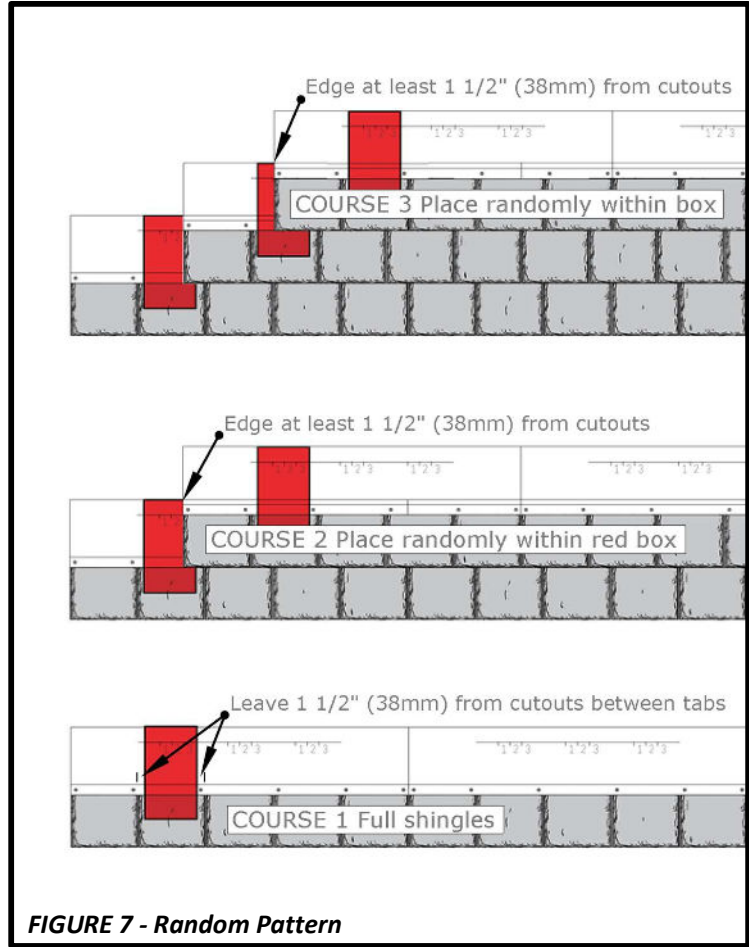
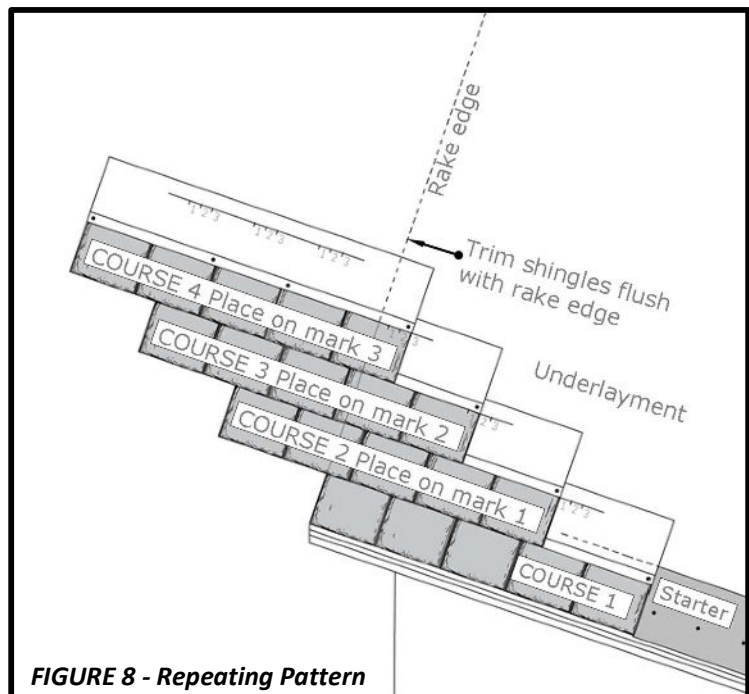
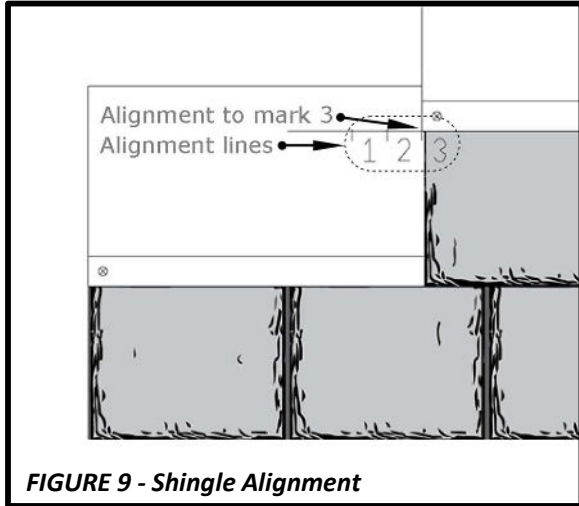

FIGURE 7 - Random Pattern
FIGURE 8 - Repeating Pattern
FIGURE 9 - Shingle Alignment
- In order to achieve the most realistic look, a random offset is preferred, as shown in **Figure 7**. A repeating offset, as shown in **Figure 8**, is also acceptable. If a repeating pattern is used, it is possible that the tab cutouts could line up at some angles when viewed from the ground. For the best appearance, the method used should be consistent on all slopes.
- Irrespective of the method used, trim shingles flush with the rake edge. See **Figure 8**.
- **COURSE 2** - Place shingles in a diagonal offset pattern. Use the horizontal reference lines on the shingle to provide a random offset distance. Be sure to keep the edge of the shingle at least **1 1/2" (38mm)** from the cutout on the shingle below. See **Figure 7**.
- Establish the overall diagonal method or stair-step effect. See **Figure 8**. Ensure proper placement of shingles on the alignment lines. See **Figure 9**.
- For the **REPEATING PATTERN** method, place the edge of the shingle on the alignment line. See **Figure 9**.